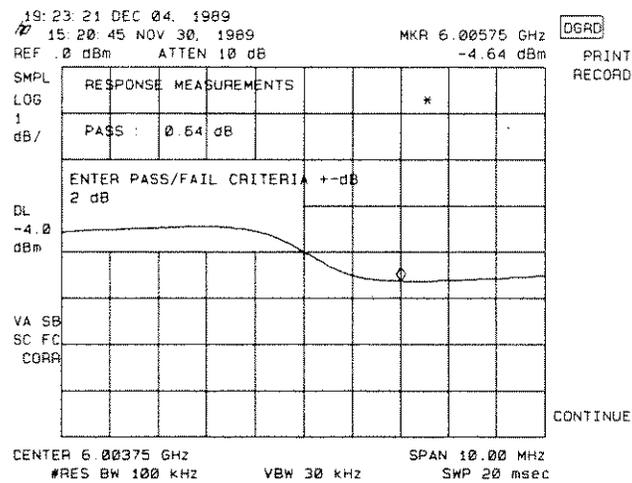

Figure 3-9. Compared Response
8. After the response comparison, the Log scale is adjusted to give best resolution to the response difference and PASS or FAIL is displayed on the screen. See Figure 3-9.